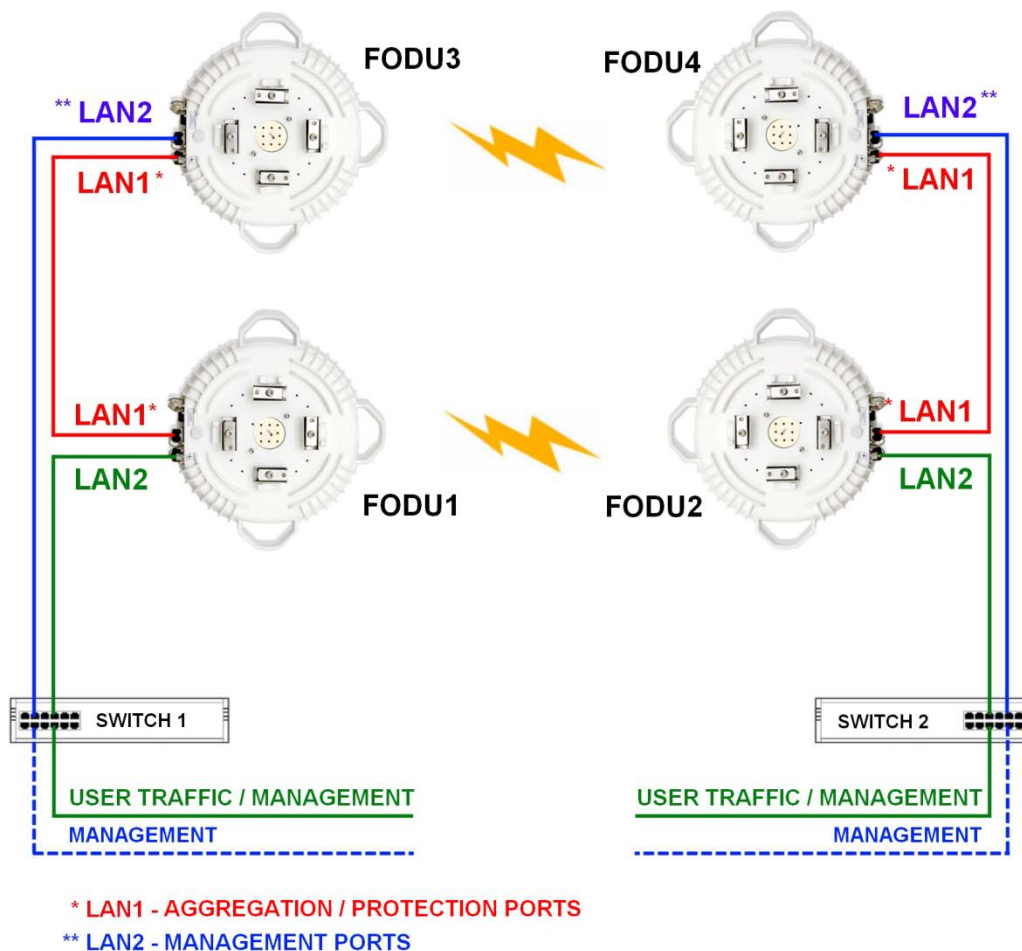

Figure 4.5. Link aggregation 2+0 / protection 1+1 setup
5. Choose different IP addresses for each CFIP Lumina unit. Please see example given in **Figure 4.5**.